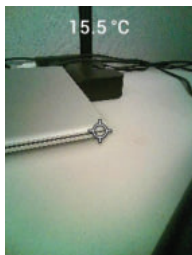

Figure 4.3 Visible Spectrum Digital Camera Image
4. View the image on the display, see **Figure 4.3**.